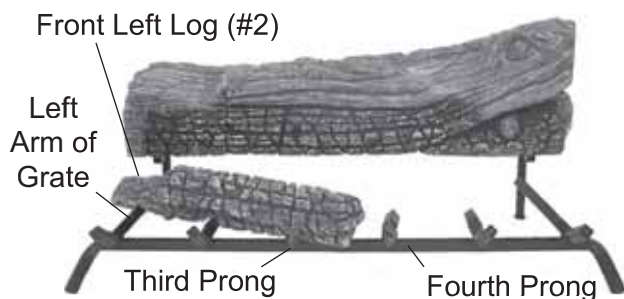

Figure 86 - Placing Front Left Log (#2) on Left Arm of Grate
3. Place Front Left Log #2 in front of back log on left arm of grate. Rest end of bottom left log between third and fourth prong of grate. *See Figure 86.*